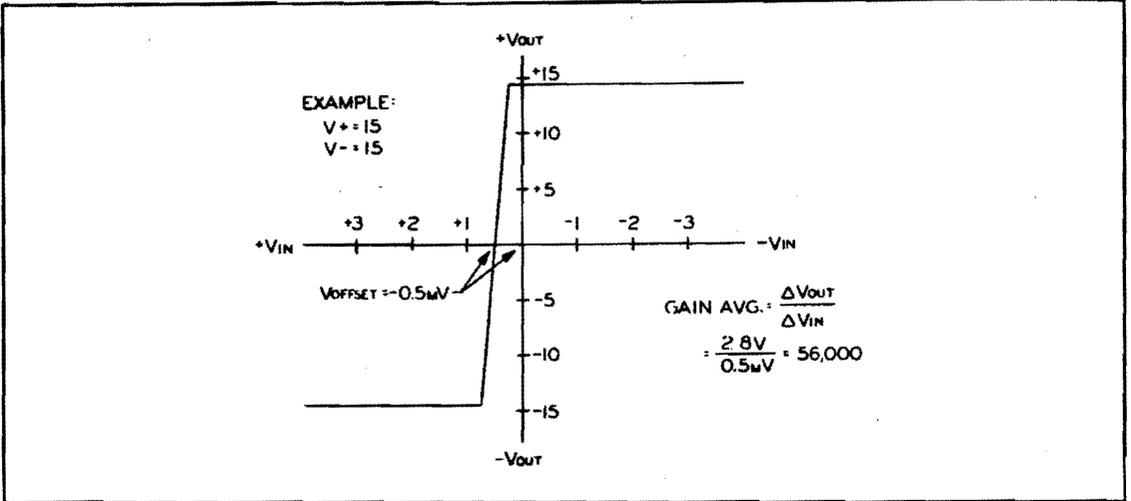

FIG. 2-10. Example of Transfer Function.
- 8) Place the device into the DEVICE UNDER TEST socket and pull the TEST/SETUP switch down. Transfer functions should appear on the scope. An example of the Transfer Function is given in Figure 2-10.